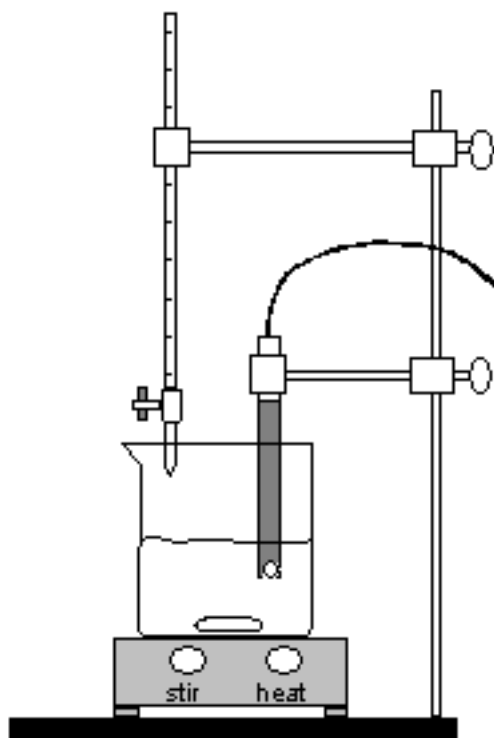

Figure 3: Experimental Setup
- 8 Carefully position the pH electrode in the 250 mL breaker until about 1/2 inch of the tip is in the solution. Clamp to the ring stand with the clamp provided. Be sure that the stir bar will not strike the pH electrode. If necessary, add more water from a graduated cylinder. See Figure 3 for the complete setup.
- 9 Position the buret so that the tip of the buret is just inside the beaker. Refer to Figure 3.
- 9 Carefully position the pH electrode in the 250 mL beaker until about 1/2 inch of the tip is in the solution. Clamp to the ring stand with the clamp provided. Be sure that the stir bar will not strike the pH electrode. If necessary, add more water from a graduated cylinder. See Figure 3 for the complete setup.
- 10 Position the buret so that the tip of the buret is just inside the beaker. Refer to Figure 3.